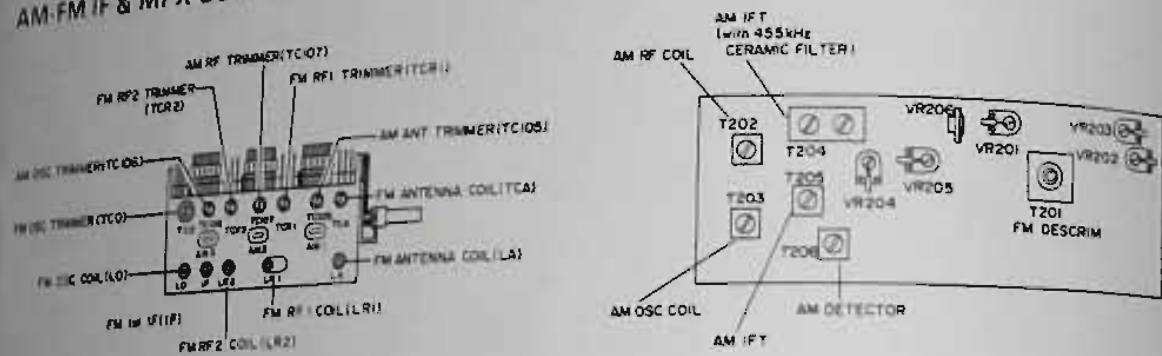

Figure 6
| 4 | Same as above | 1400 kHz (400 Hz, 30 % Mod.) | 1400 kHz | Same as STEP 1 | TC 106 (AM OSC Trimmer) TC 105 (AM ANT Trimmer) TC 107 (AM RF Trimmer) | Adjust for maximum reading on meter. Refer to Fig. 6 and 7. |
| 4 | Same as STEP (1) | 90 MHz (400 Hz, 75 kHz dev.) Input: about 2-3 μ V | 90 MHz | Same as STEP (2) | LO (FM OSC Coil) LR 1, LR 2 FM 1st and 2nd RF Coil LA (FM Antenna Coil) | Adjust for maximum reading on meter. Refer to Fig. 6 and 10. |
| 5 | Same as STEP (1) | 106 MHz (400 Hz, 75 kHz dev.) Input: about 2-3 μ V | 106 MHz | Same as STEP (2) | TCO (FM OSC Trimmer) TCR 1, TCR 2 (FM 1st and 2nd RF Trimmer) TCA (FM Antenna Trimmer) | Adjust for maximum reading on meter. Refer to Fig. 6 and 10. |
| 7 | Same as STEP (1) | 98 MHz (400 Hz, 75 kHz dev.) Input: 10 μ V | 98 MHz | Same as STEP (2) | IFT (FM 1st IFT) (FM Front-end Board) | Adjust for maximum reading on meter. Refer to Fig. 6 and 10. |